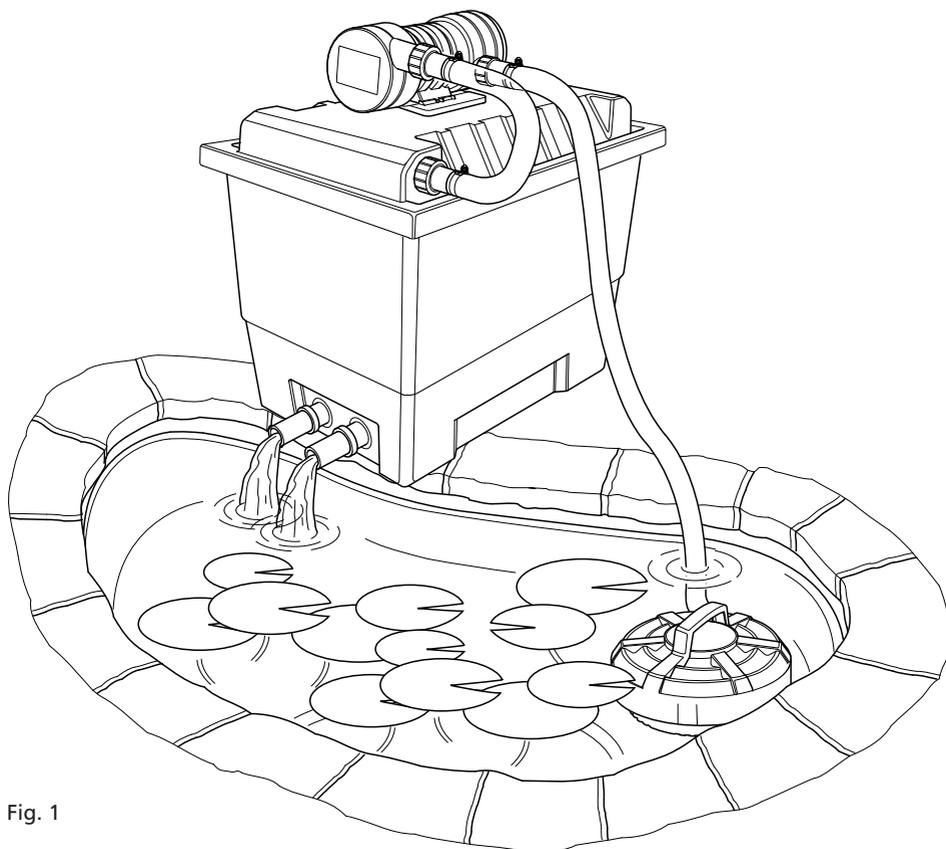

Fig. 1
- 3.1 The Hozelock Cyprio Vorton UVC can be added to most filter systems before or after filtration, the effect is the same. The water must be pumped through the unit - not gravity feed. A typical installation is shown in fig 1.